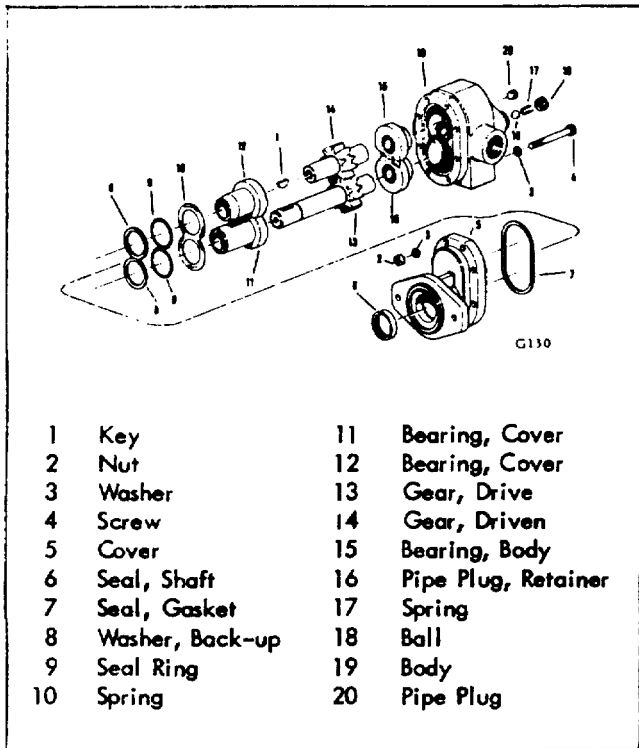

Figure 3.
This pump is located on the left side of the engine, under the engine manifold and attached to the timing gear housing. (Fig. 3)
1. Disassemble in the sequence as indicated by the numbers on Figure 3.